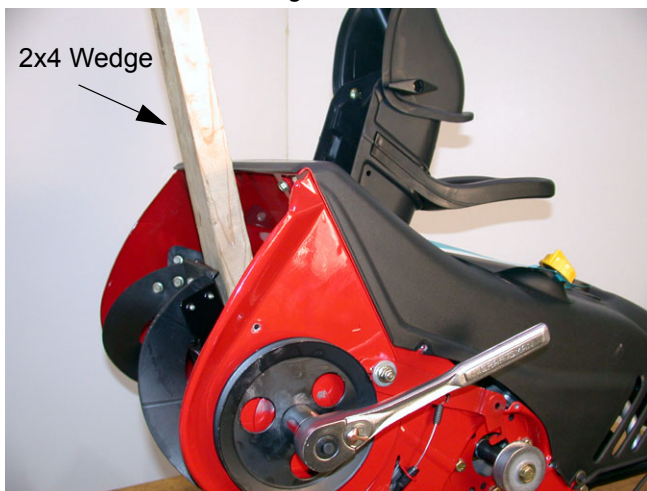

Figure 12
- 9.1. Place a two by four wedge in the housing to hold the auger from turning. Using 1" socket, remove the auger pulley nut. The shaft is reverse threaded and the nut is removed by turning it clockwise. See Figure 12.